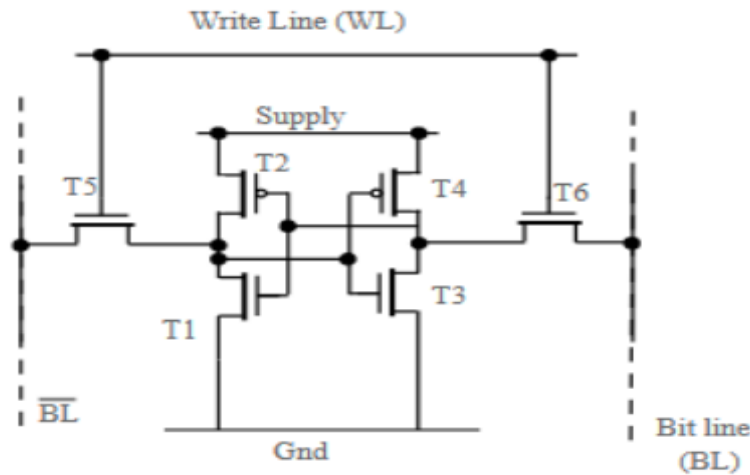

Figure 2: SRAM 6T cell
To design and characterize the basic 6T SRAM cell as shown in figure 2. The concept and working of SRAM is given here.
Recalling that the wordline and bitlines are held at VDD during a read, Figure 2 shows how to extract the read static noise margin (SNM) of the cell. First, the feedback from the cross coupled inverters is broken. Next, the VTC of the “inverter” formed by half of the SRAM cell is found by sweeping `V1` (the inverter’s input) from 0 to VDD and measuring `V2` (the inverter’s output). This plot is then used to construct the “butterfly plot” that is representative of the two halves of the cell driving each other. The read SNM is the side length of the maximum possible square that can fit inside of the butterfly plot. You do not have to calculate the size of this maximum square, but you should submit the butterfly
3. **Pre-charge Transistors:** After every read operation, the bitlines need to be pre-charged back to VDD - this is easily achieved by connecting a PMOS pre-charge transistor to each of the bitlines. Figure 2 shows a schematic of the pre-charge transistors connected to one column of the SRAM. Typically, the precharge transistors would be physically placed at the top of the SRAM array, so the dimensions of the cell containing these devices should match the width of the SRAM cell. You are free to size the pre-charge transistors as you like, but you must make sure that the time it takes for the bitlines to get precharged to within 10% of VDD is less than the total critical path delay through your adder and decoder.